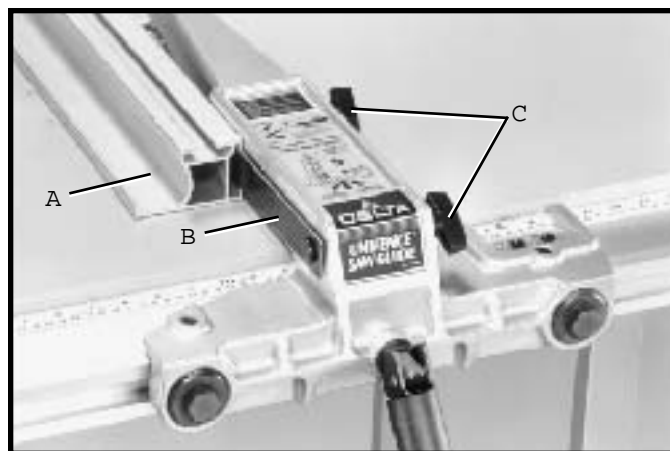
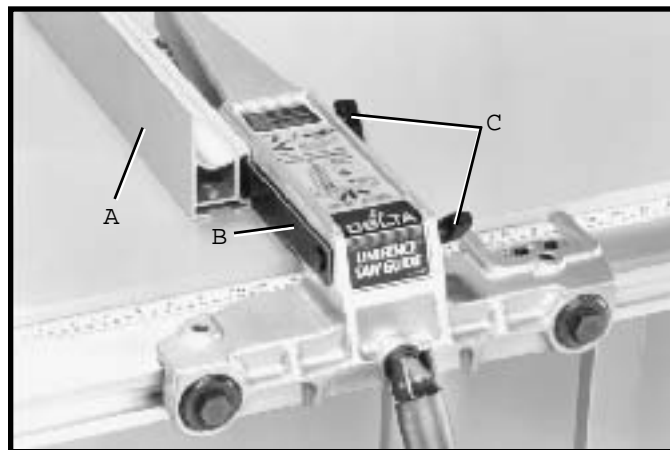

Fig. 69
Fig. 70
1 The fence (A) can be assembled to clamp plate (B) in either the horizontal position as shown in Fig. 69, or the vertical position as shown in Fig. 70. Make certain the two lock knobs (C), are loose and slide fence (A) onto clamp plate (B) as shown. Then tighten the two lock knobs (C).